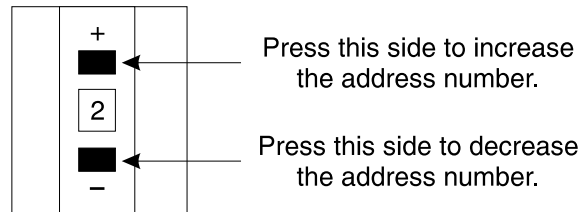

Figure 8-1: Setting the SCSI ID/Target Address
- a. Locate the target address switch on the rear panel of the SCSI device (see Figure 8-1).